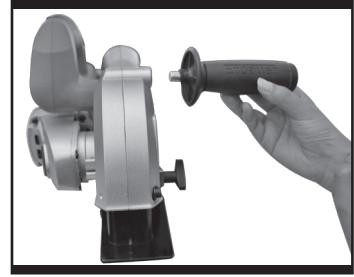

Fig. 12
4. INSTALLING THE AUXILIARY HANDLE (See Fig. 12)